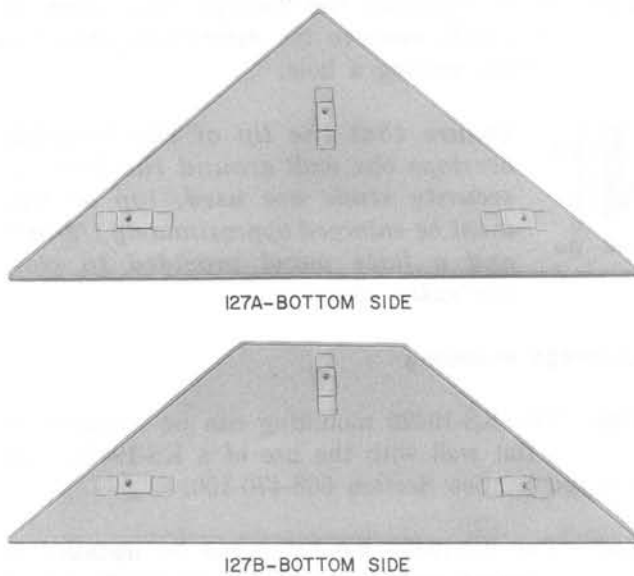

Fig. 3—127A and 127B Covers
- 2.11** Install a 127B cover (Fig. 3) over the coin telephone using three No. 8-32 by 3/16 RHM screws. The cover must be ordered separately; screws are furnished with cover.
- 2.13** Install a 127A cover (Fig. 3) over the coin telephone using three No. 8-32 by 3/16